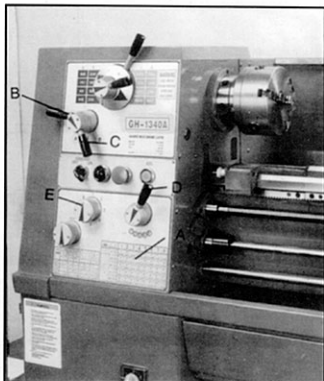

Fig.16
1. Reference the feed and thread tables (A, Fig. 16) found on the gear box faceplate.
2. Move levers (B, C, D, & E, Fig. 16) to the appropriate positions according to the chart.
Note: the 25T x 127T x 50T gears are installed in the end gear compartment when delivered from the factory. This combination will cover most inch feeds and threads under normal circumstances. The 30, 32, two 40 tooth gears and other gears found in the tool box are used as indicated on feed and thread tables (A, Fig. 16).
Note: other gear combinations are possible. See the lead and feed chart on the front of the gear box (A, Fig. 16).